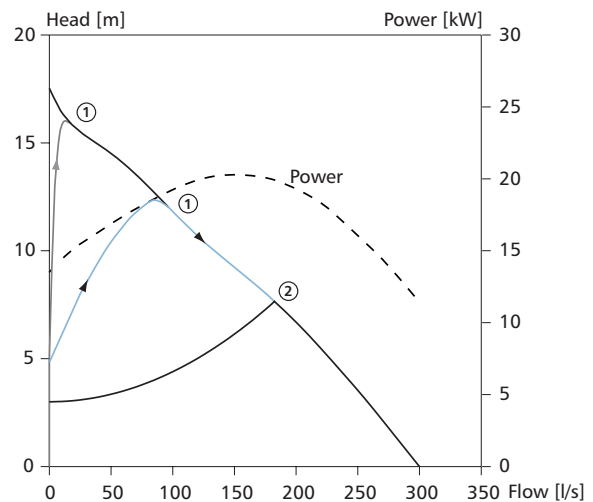

Fig 3.3 Start of a second centrifugal pump in a multi pump system.
point is higher than at the duty point for the start of the first pump. The power at the full speed duty point, (1), will determine the load torque at full speed, (1) in fig 3.3. The load curve will hence be higher.